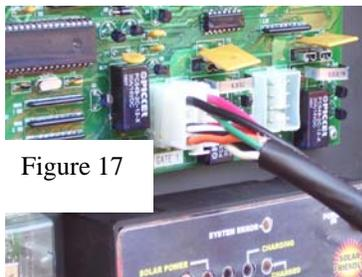

Figure 17
Ensure the length allows for connection to the Ranger control board Gate 1 connector (see figure 17).
4. Connect it to the Gate 1 connector located on the Ranger Control board (see figure 17).